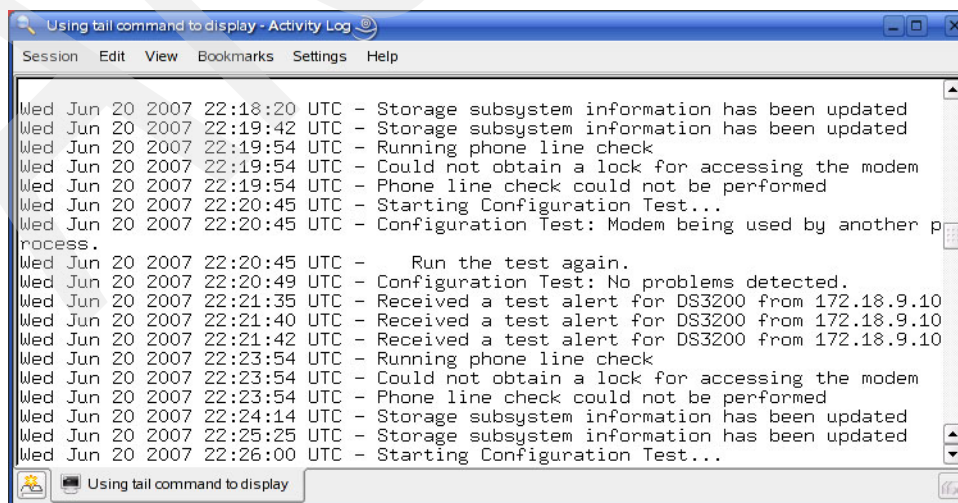

Figure 15-18 RSM Activity Log shown on a KDE desktop
18. Results from this test are logged in the Activity log. You can access the Activity log through an icon on the KDE desktop, or you can use the command `tail -fn 10000 /var/log/rsm/activity.txt` to see the contents of the log file, as shown in Figure 15-18.